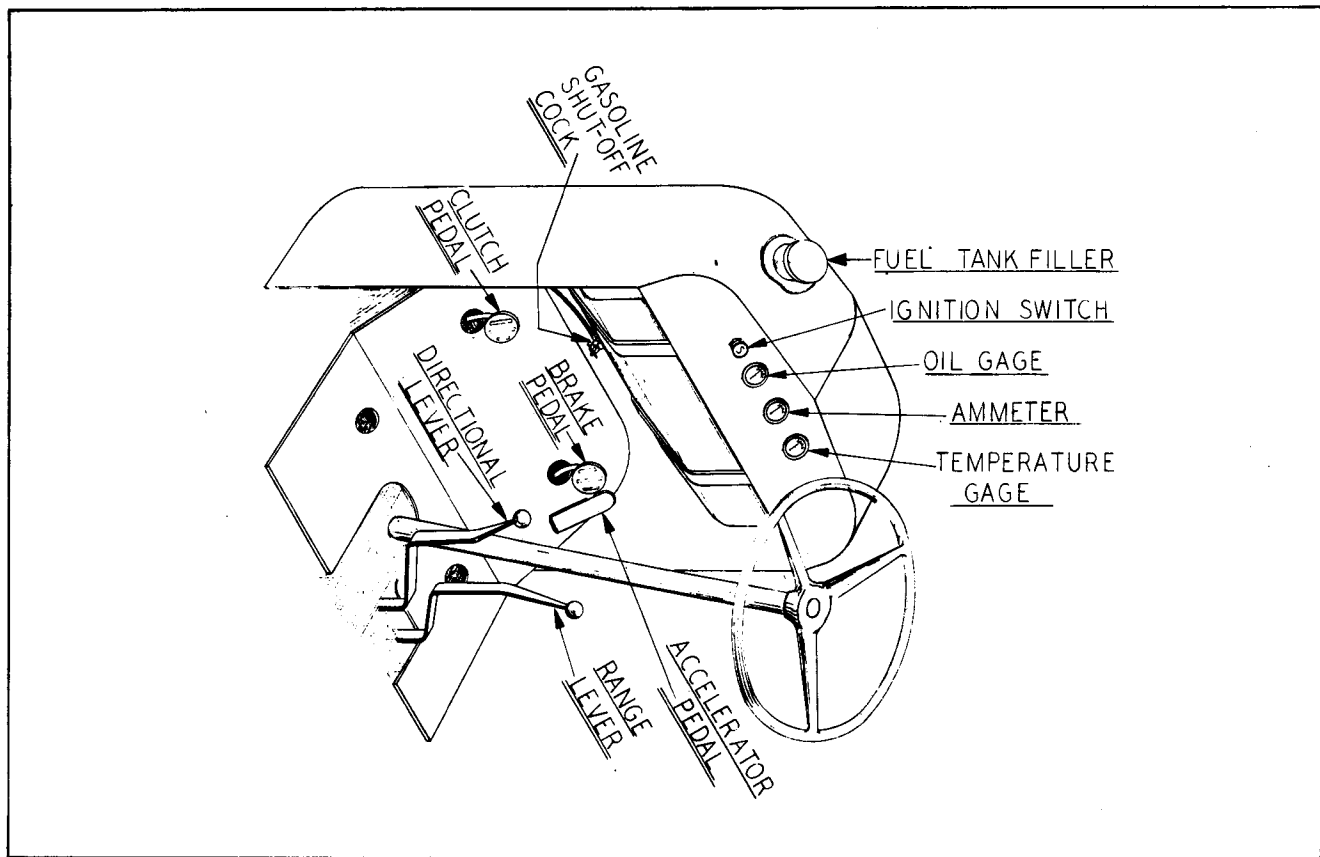
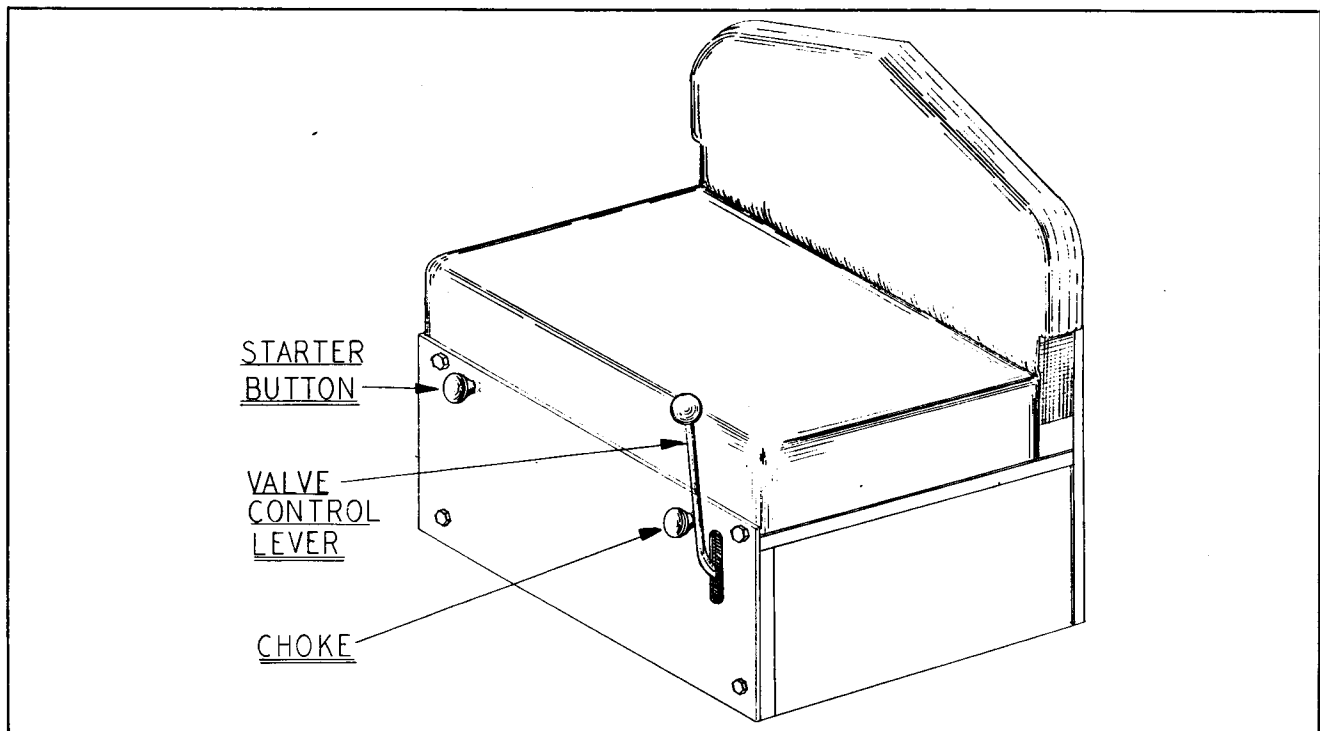

Fig. 1
Fig. 2
10. Fill the fuel tank using a gasoline with minimum octane rating of 70-72. Capacity of the tank is $6\frac{1}{2}$ U.S. gallons. The fuel tank is located under the front shroud and has a shut off cock attached to the tank at the fuel line connection. (FIG. 1, Page 7).
DRIVING THE PAYLOADER (See Fig. 1 and 2, page 7).
Before starting the engine, place the RANGE lever and the DIRECTIONAL lever in the neutral positions; and the bucket CONTROL lever in the hold position. (See fig. 1 & fig. 2 page 7).
Be sure the gasoline shut off cock is open. (See fig. 1 page 7).
Pull out the ignition switch on the left hand side of the dash and check the ammeter to see that it registers. (Fig. 1 page 7).
Press the starter button located on the right side of the seat plate. The choke rod is located on the left side. (Fig. 2 page 7). If necessary pull the choke rod out slightly to start.